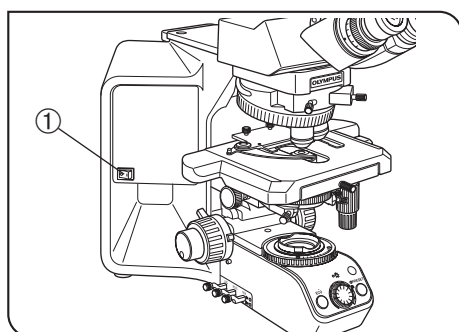

Fig. 1
(Fig. 1)
6. To avoid potential shock hazards and burns when replacing the light bulb, set the main switch ① to "●" (OFF) then disconnect the power cord from the wall outlet in advance. Whenever you replace the bulb during use or right after use, allow the lamp housing, and bulb to cool before touching. (Fig. 1)